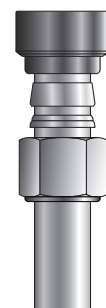

Figure 2
2. Insert "U-shaped" Nut Die into the back-up plate of the Hydraulic Ram as shown in Figure 2.